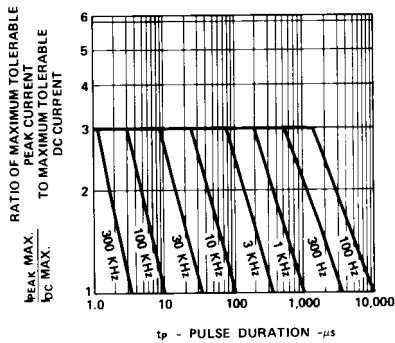

Figure 5. Maximum Tolerable Peak Current vs. Pulse Duration. ( $I_{DC \text{ MAX}}$  as per MAX Ratings).
1. See Figure 5 (HER/Orange), 10 (Yellow), or 15 (Green/Emerald Green) to establish pulsed operating conditions.